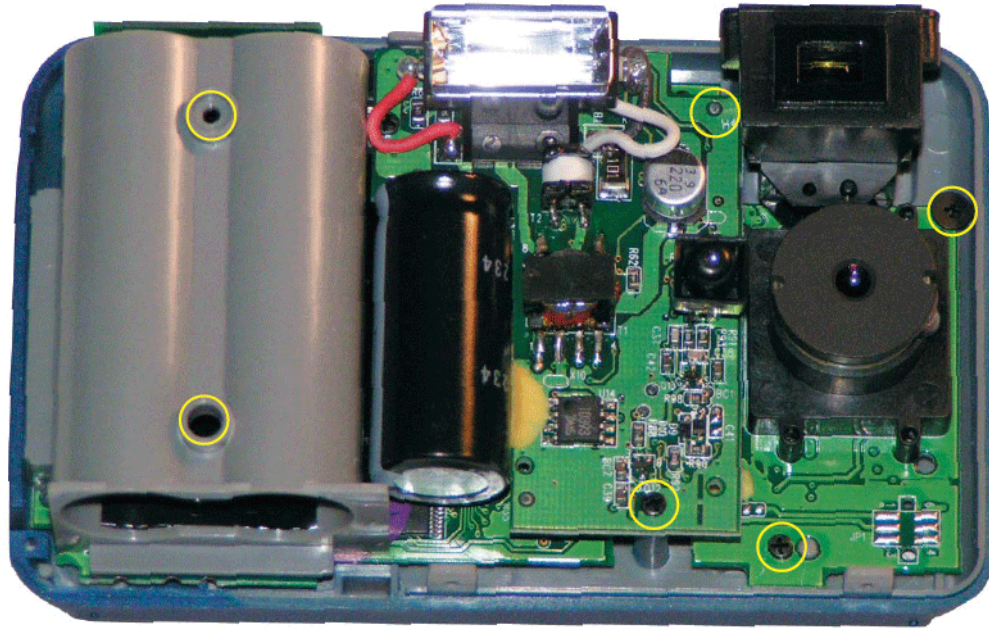

Fig. 1
First, make a form to hold both the record and the molding material you want to use. I built a simple box out of wood that I am setting on a sheet of glass (Fig. 1). Next, you need to choose something to make the mold with. Silicone is a good choice
**Fig. 1:** Place the record you want to duplicate in a box that has been taped up along the corner edges to prevent leakage. You'll then pour enough liquid silicone into
**Remove rear housing.** Fig. 1 (top photo) identifies six locations where the screws should be removed (yellow circles). Remove those screws, and pull the rear housing off the circuitry.